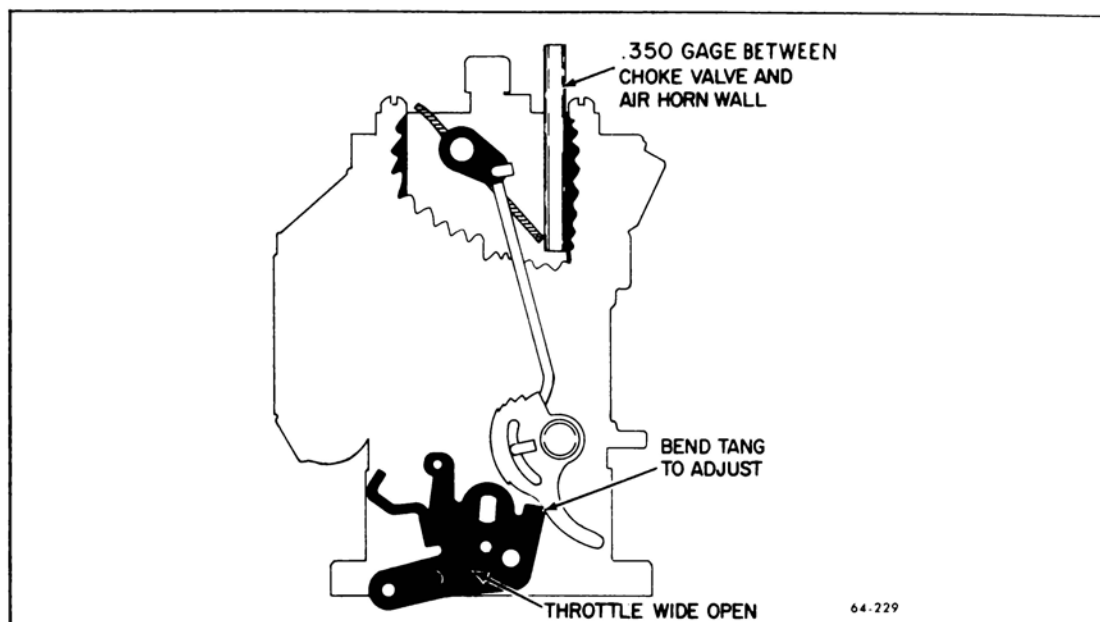

Figure 64-60—Choke Unloader Adjustment
3. Bend unloader tang on throttle lever to obtain .350 inch dimension between lower edge of choke valve and air horn wall. See Figure 64-60.